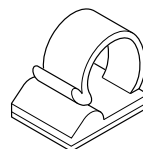

Figure 35 - Adhesive-backed Mounting Clip
2. The adhesive-backed mounting clip (see Figure 35) is attached to the thermostat sensing bulb. Remove the adhesive-backed mounting clip.